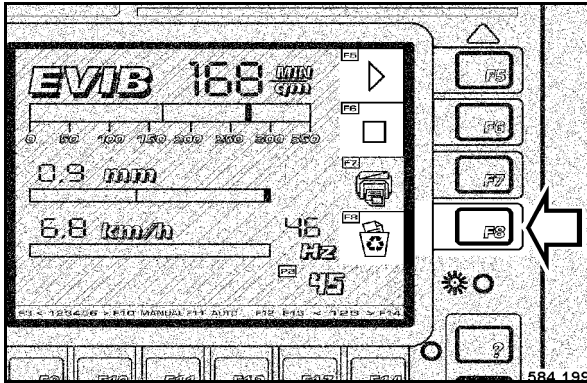

Fig. 103
- If no further printouts of this track are needed, press the button F8 “DELETE” (Fig. 103) when the red control lamp F6 “FINISHED” lights up.